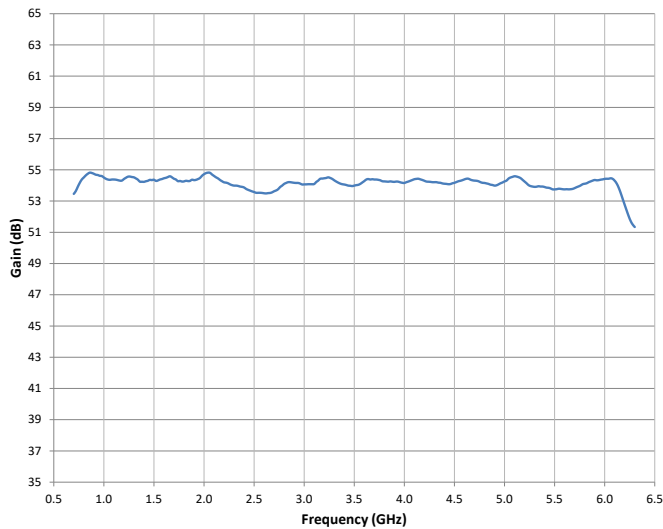
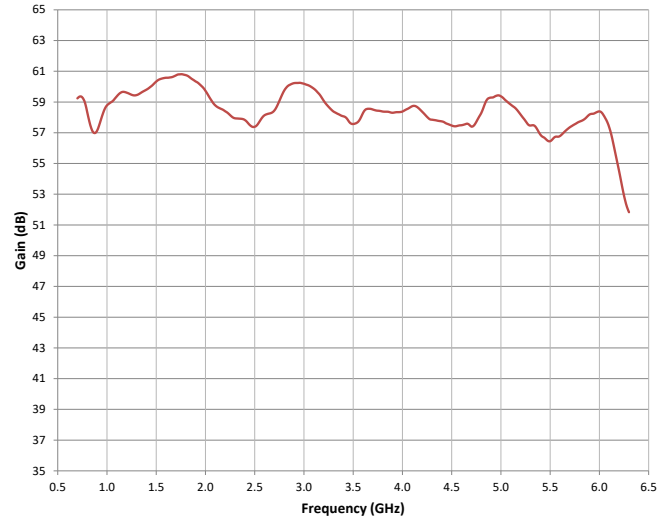

Figure 4-1. Typical Response at 0 dBm Input
Figure 4-2. Typical Response at -20 dBm Input
1. The Model 250S1G6's typical gain response at 0 dBm input and -20 dBm input is shown in Figures 4-1 and 4-2. The actual gain may vary considerably from that shown in Figure 4-1 but should be ≥ 55.5 dBm. Figure 4-2 should be ≥ 58 dBm. *NOTE: If the overall gain is low, the amplifier chain can be separated at the input of A3 Four-Way Splitter.*